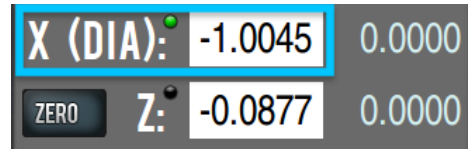

FIGURE 4.11: ZEROING THE X-AXIS.
- Type a negative in front of the measurement for the diameter that you just measured in the “X (Dia)” box and hit enter, Figure 4.11. For the stock measured in 4.10, we would enter a value of -1.0045. However, yours will likely be different.